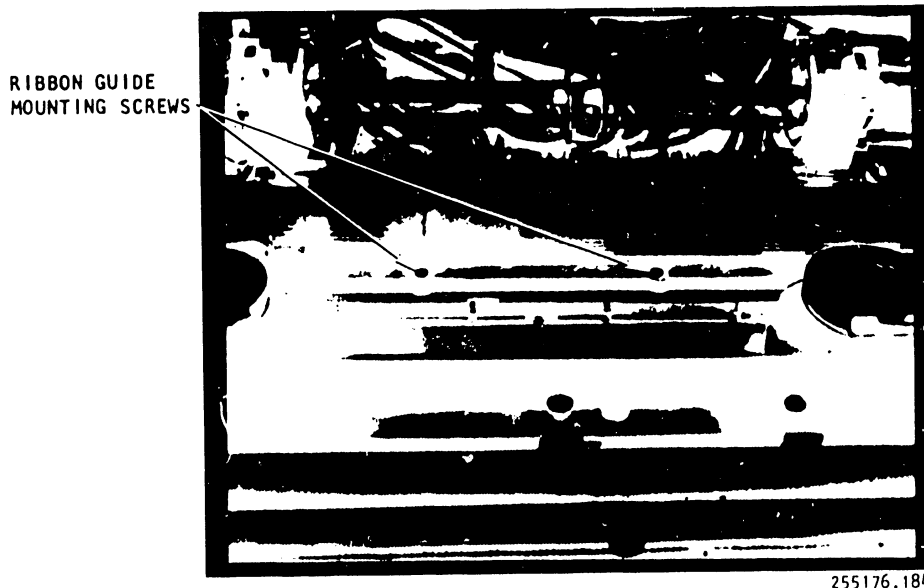

Figure 3-1. Paper Clamp Armature Assembly with Screw-Mounted Ribbon Guide
(Figures 3-1 through 3-5)
- c. Remove the ribbon guide, if used, from the top of the platen. See **figure 3-1** or the appropriate Maintenance Guide.
- e. Using a 4mm hex driver, loosen the three (3) screws which secure the platen to the casting.